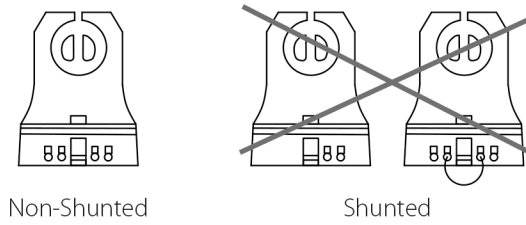

Fig: 6
- If applicable, replace lamp holders at power end with non-shunted lamp holders (Fig.6).